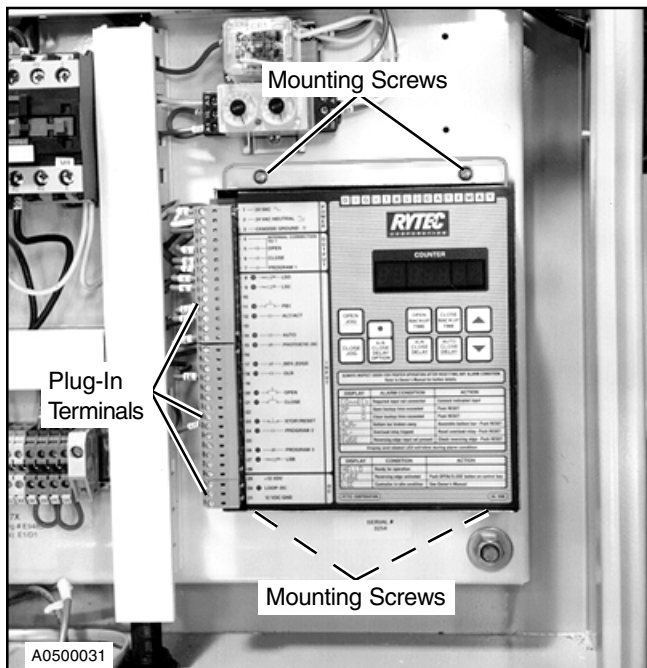

Figure 18
2. Remove the plug-in terminal blocks, and remove the existing Digital Gateway from the control box. (See Figure 18.)